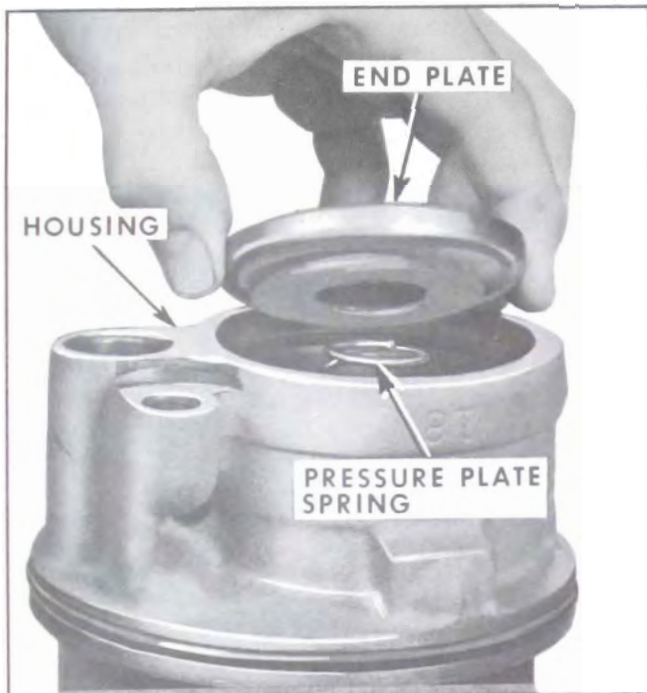

Figure 8-76—Inserting End Plate in Housing
10. Place pressure plate spring in center groove in pressure plate. See Figure 8-76.